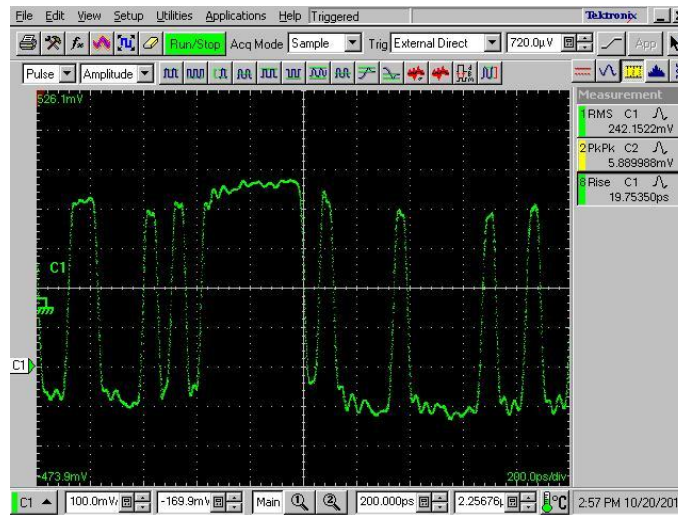

Figure 5. Incorrect PRBS7 pattern
- Scroll/Delay the 127 bit PRBS7 pattern on the oscilloscope until you observe a sequence of data close to 7 one's followed by 6 zero's. You may find a pattern shown below in **Figure 5**, which is incorrect.